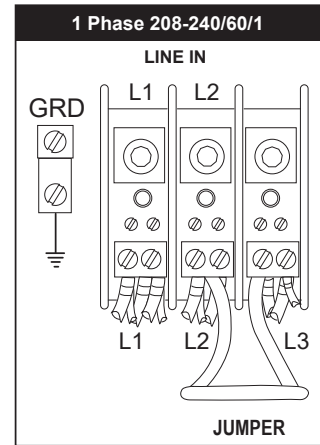

Fig. 15 - Jumper wire
3. Connect jumper wire (supplied by factory), Fig. 15, between L2 and L3 on output side of terminal block.